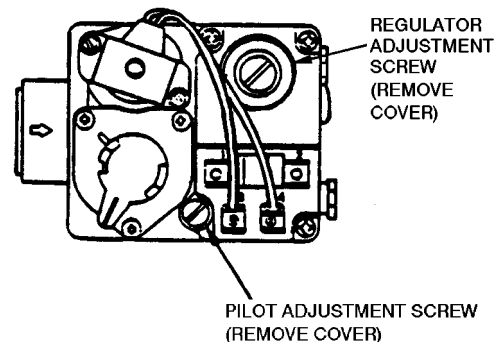

Fig. 36 — Gas Valve
2. Remove screw cap cover on pilot gas valve to expose adjusting screw (See Fig. 36).
6. Remove screw cap covering regulator adjustment screw (See Fig. 36).